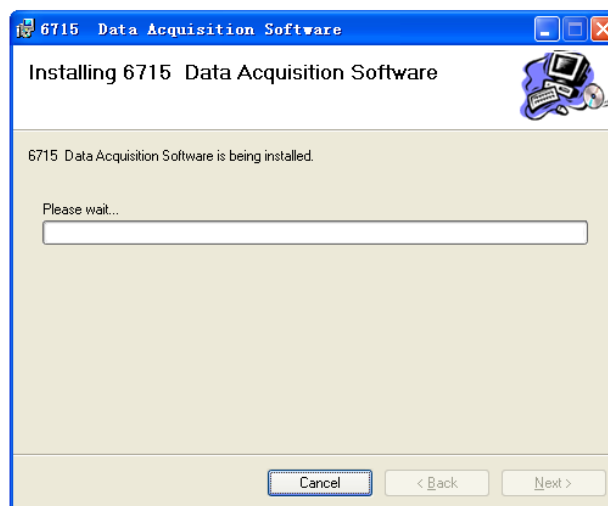

Figure 2-4
4) Wait until the installation finishes, as shown in Figure 2-4.